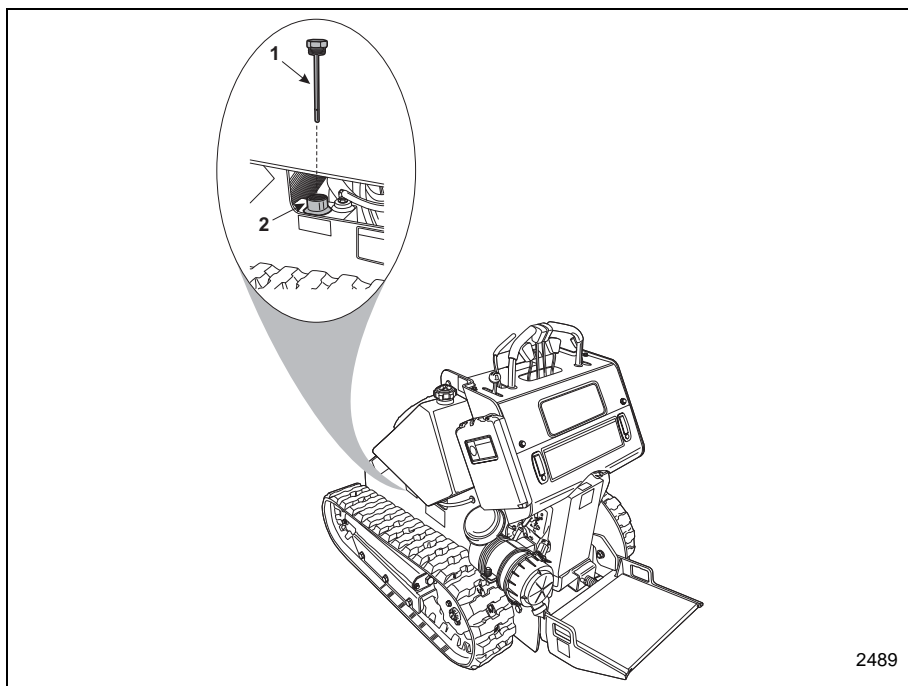

Figure 4-8 Hydraulic Fluid Level Dip Stick
- a. Unscrew the dipstick assembly and remove from the machine. (1, **Figure 4-8**)
- c. Add the proper hydraulic fluid (Chevron Rykon Premium ISO 46 hydraulic fluid or equivalent) through the filler port (Item 2, **Figure 4-8**) until the fluid level is at but not above the upper marker hole in the dipstick.